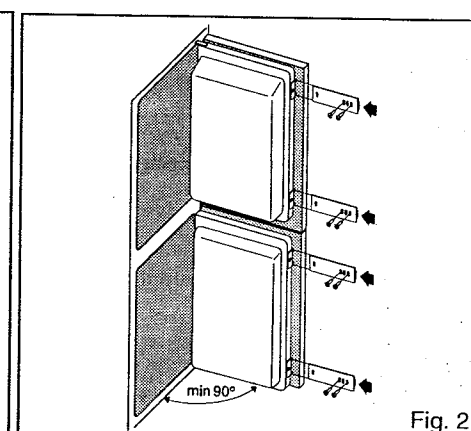

Fig. 2
- Put together the appliance door and the door of the kitchen unit (Fig. 2).